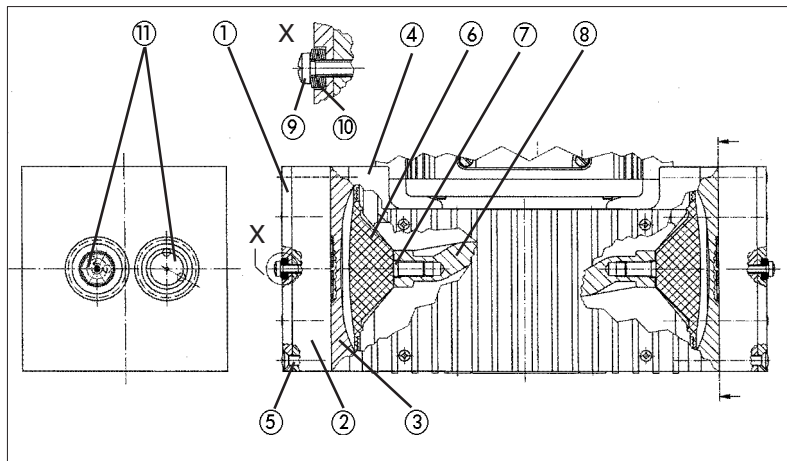

Fig. 7: Cross section of pump heads for pump N 860.3 FT.40.18 (symbolic)
- ▶ The position numbers in the following text refer to fig. 7.
first three disc springs must point away from the screw head, the next three towards it (see fig. 7, detail X).